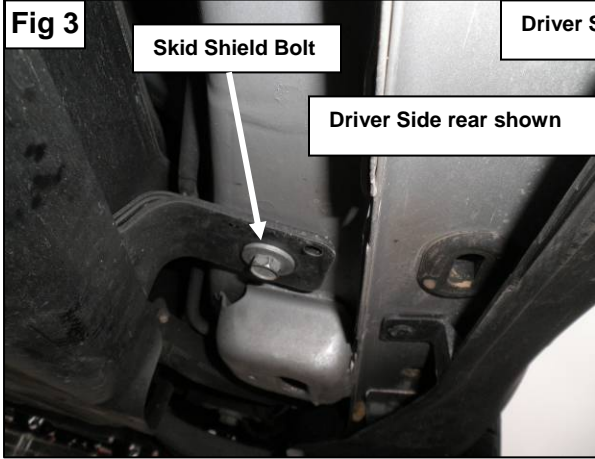
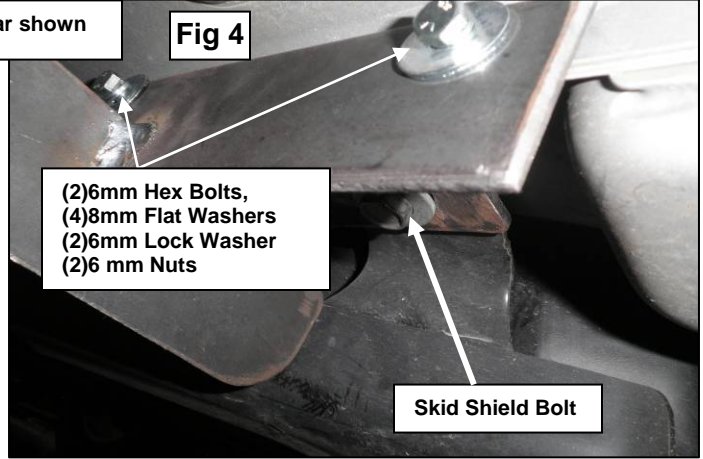
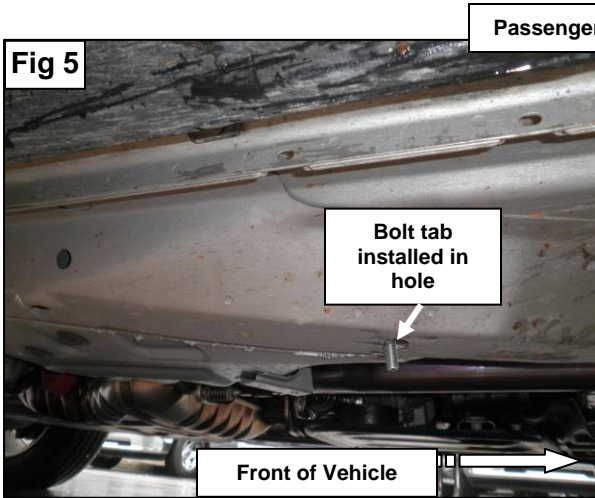

Fig 4
Fig 5
Fig 6
3. Locate and remove the rear skid shield bolt as seen in **(Fig 3)**. With bolt removed install the Driver/left side bracket as seen in **(Fig 4)** to the bottom of the rocker panel drip rail with the (2) 6mm hex bolts, (4) 8mm flat washers, (2) 6mm lock washers and (2) 6mm Nuts re-attach skid shield bolt. Snug but do not tighten at this time.
4. Position Driver/left Side Bar onto Mounting Brackets. Attach Side Bar to Mounting Brackets using the included (4) 10mm x 30mm Hex Head Bolts, (4) 10mm Lock Washers, and (4) 10mm Flat Washers. Level and adjust Side Bar, then tighten all hardware at this time.
5. For the Passenger/right side front mount bracket, locate and install the bolt tab into the bottom of the frame rail as seen in **(Fig 5)**. With bolt tab installed mount the bracket as seen in **(Fig 6)** to the bottom of the rocker panel drip rail with the (2) 6mm hex bolts, (4) 8mm flat washers, (2) 6mm lock washers and (2) 6mm Nuts Attach the (1) 10mm flat washer (1) 10mm lock washer and (1) 10mm Nut to the bolt tab. Snug but do not tighten at this time.